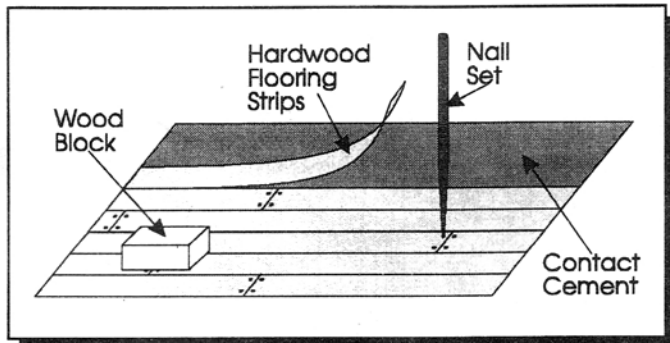

Figure 9
2. Start laying hardwood strips at the back of the house and work toward the front. Cut the strips with scissors. Off-set the joints as shown in Figure 9.
4. To achieve a pegged appearance punch the ends of each strip with a 3/32" nail set as in Figure 9.